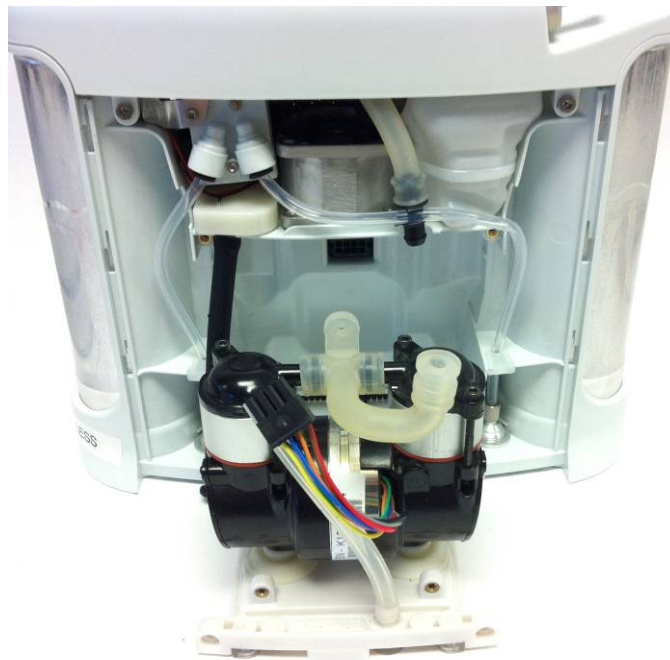

Figure 15: Compressor and filter assemblies
9. Gently slide the filter body and filter box lid assembly as well as the compressor assembly out of the device as a single unit (Figure 15). Set aside.